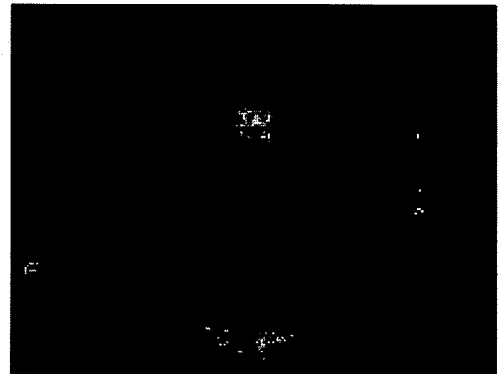

Figure 21
1. Drain the solution tank (Figure #21, item A) and the recovery tank (Figure 21, item B). To drain the tanks, follow this procedure: